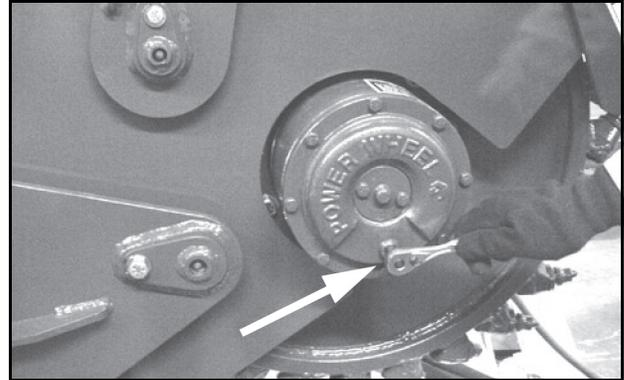

Figure 28. Gearbox
2. Raise the pavement saw so the cutting wheel is free to rotate and turn the cutting wheel manually until the drain plug of the gearbox is at the 6 o'clock (lowest) position as shown in Figure 28. Remove the plug and drain the lubricant from the gearbox.